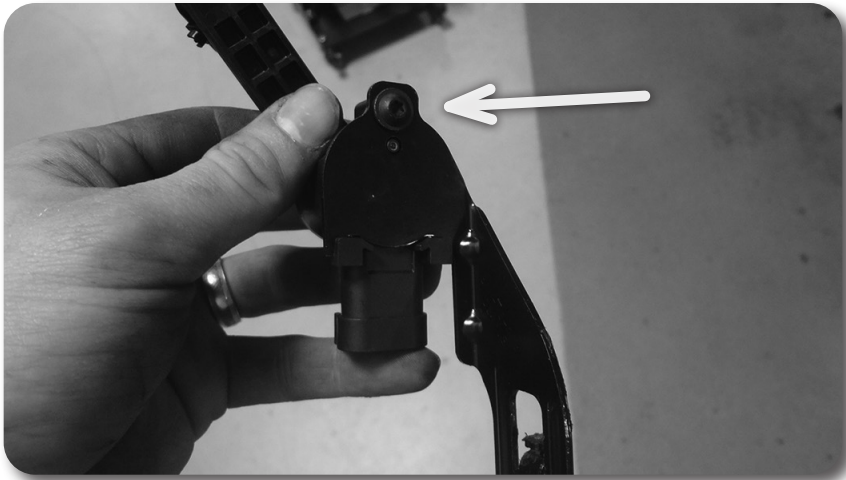

Figure 49
74. **6" Denali Models (ARC Models) Only:** Remove the bracket from the ARC sensor Fig. 49. Install the new bracket to the ARC sensor with the original hardware. The brackets are side specific and look similar to the factory bracket.